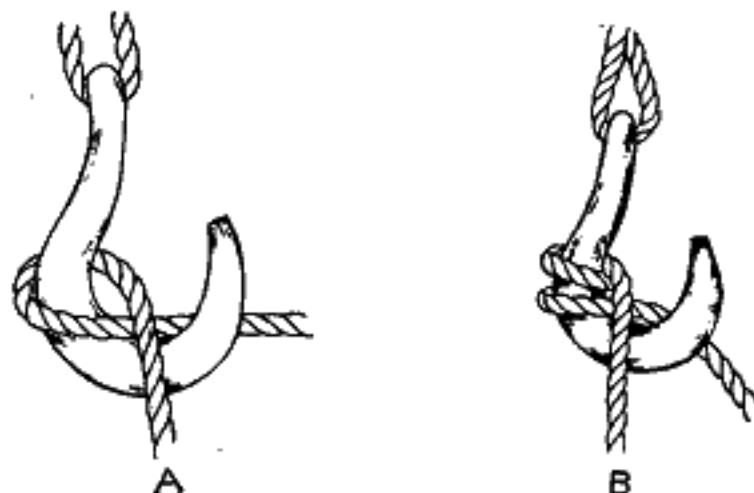

FIG. 342.—Two forms of the Blackwall hitch.
**402.** The Blackwall hitch (Fig. 342) is used for fastening a rope temporarily to a hook.